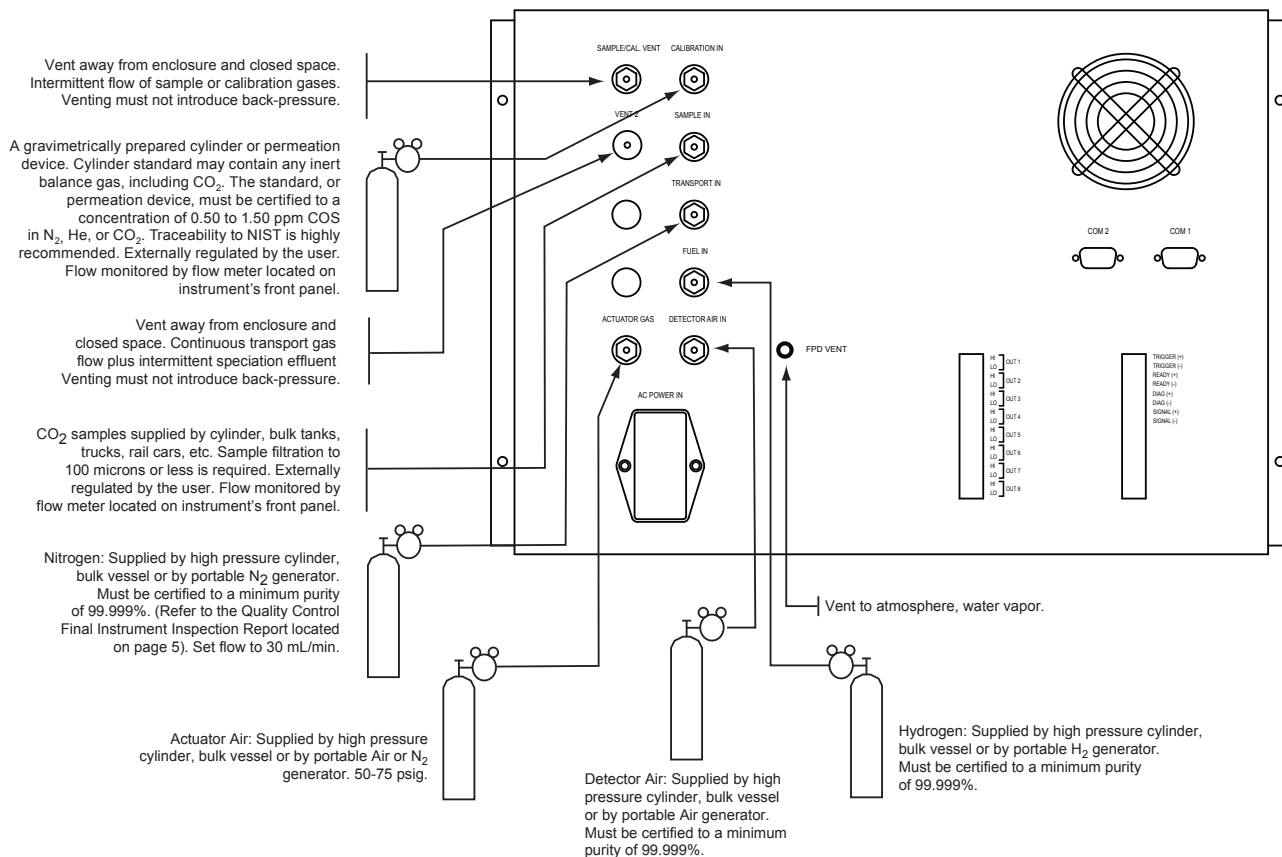

Figure 4-3
- 4.5.2.3 Connect one end of the pre-cleaned tubing to the source gas, which may be a gas cylinder, hydrogen generator or permeation tube outlet system. Refer to Figure 4-3.